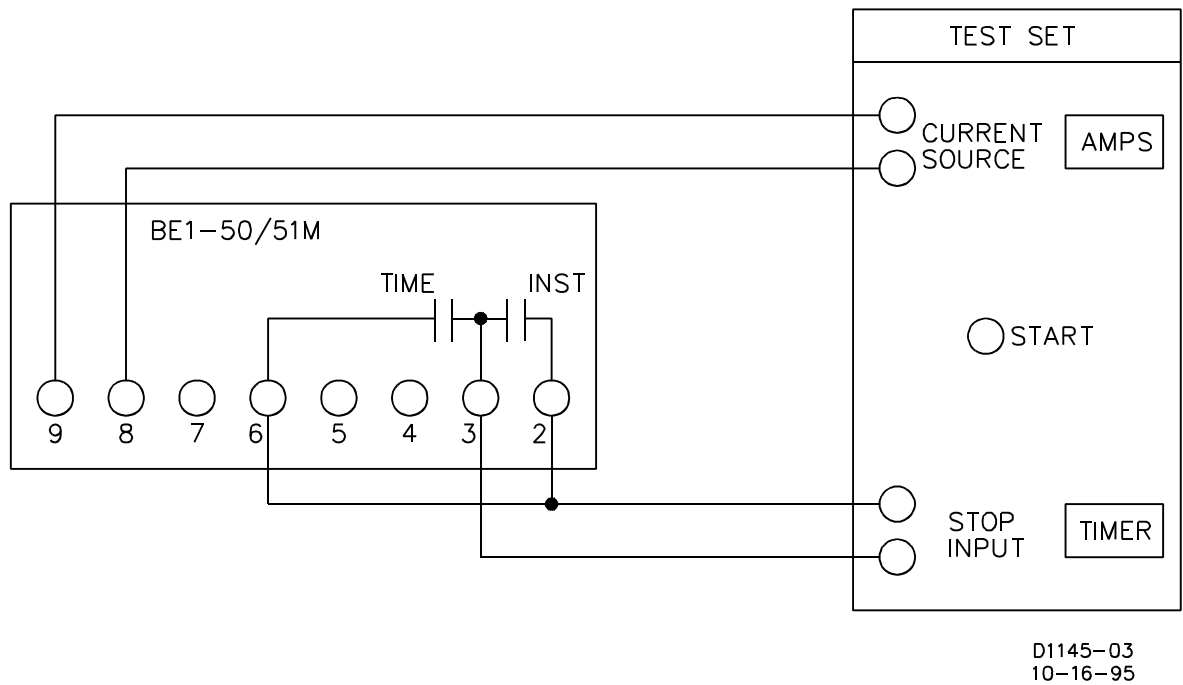

Figure 5-1. Pickup and Timing Test Setup
The following procedure verifies operation of the relay. The test setups of Figures 5-1 and 5-2 are intended primarily as an illustration of the principles involved. Other test setups known to be capable of testing to the stated and implied tolerances (including equipment specifically designed for testing relays) may be used.
- Connect test setup as shown in Figure 5-1.